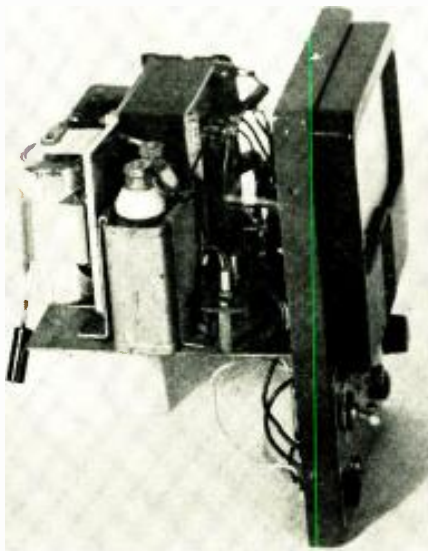
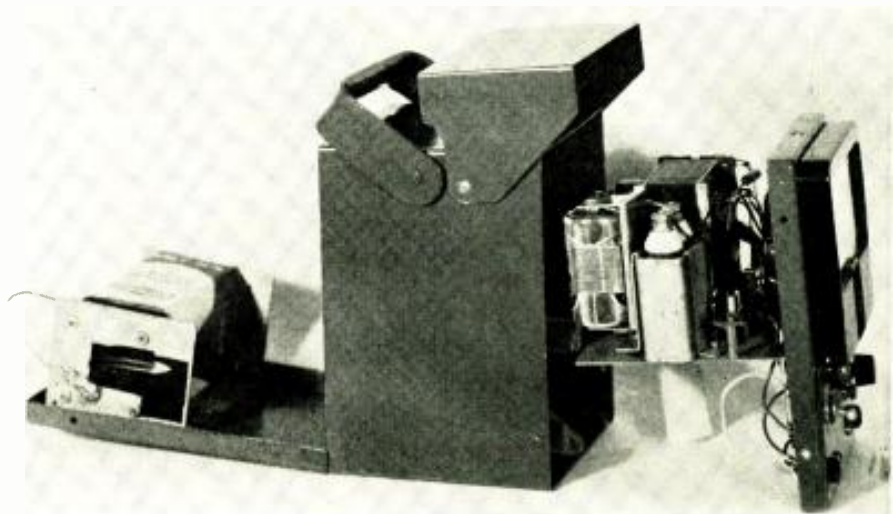

Fig. 3. The main chassis, including bias cell, is mounted to the front panel.
Fig. 5. Hinged door at rear permits mounting and easy removal of lantern battery.
The main chassis (Fig. 3) is mounted on the front panel of the instrument, which was designed to fit into a metal cabinet (Fig. 5) 5 inches wide, 7 inches high, and 5 inches deep, with a hinged door on the back. The lantern-battery holder slides right out of the cabinet to facilitate replacement, and an adjustable, metal visor was added to protect the meter face when the instrument is not in use.
Negative resistance may be put to work for various tasks, such as oscillation, amplification, frequency conversion, harmonic generation, counting, and switching. The circuits usually are very simple, since the negative resistor generally is a 2-terminal device. Fig. 3 shows several typical circuits. A rule of thumb is that when a negative resistance ( $R_n$ ) is operated from a d.c. supply in series with a positive resistance ( $R$ ), shunting  $R_n$  with a capacitor (as in Fig. 3A) produces a relaxation oscillator, and shunting it with an  $LC$  tuned circuit (Fig. 3B) produces a sinusoidal oscillator. Fig. 3C shows one of many negative-resistance amplifier circuits. Here, the d.c. voltage,  $E_{d.c.}$ , biases the negative resistor,  $R_n$ , into its negative-resistance region, the a.c. signal is supplied by a generator having internal resistance  $R_g$ , and the output signal is developed across the load resistance,  $R_L$ . If  $R_n$  were not in the circuit,  $E_L$  would equal  $E_n R_L / (R_g + R_L)$ . With  $R_n$  present, however, operation is somewhat different. In this case, the gain increases so that the amplifier may go into oscillation. Here the negative resistance is simulated by the
Fig. 3. Equivalent circuits of negative-resistance devices. Circuits simulated are (A) relaxation oscillator, (B) sinusoidal oscillator, (C) amplifier, (D) flip-flop.